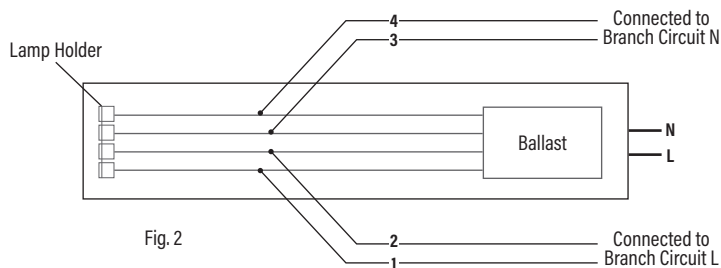
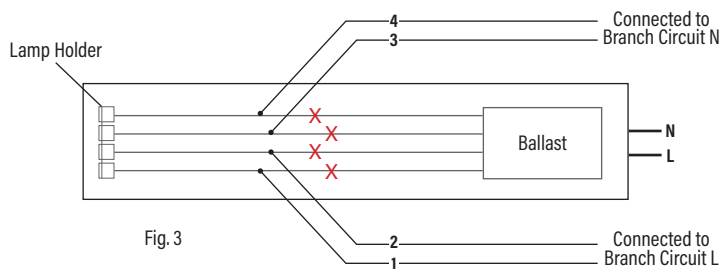

Fig. 2
Fig. 3
STEP 4: Original circuit as shown in Fig.2. Cut lamp holder leads "1, 2, 3, 4", then connect one lead from each lamp holder to branch circuit as follows, "Leads 1 and 2" connected to L; "Leads 3 and 4" connected to N as shown in Fig. 3. Cut as far away from the lampholders as possible to allow for longer lengths of wires at both lampholders. Note: The ballast must be retained in place.